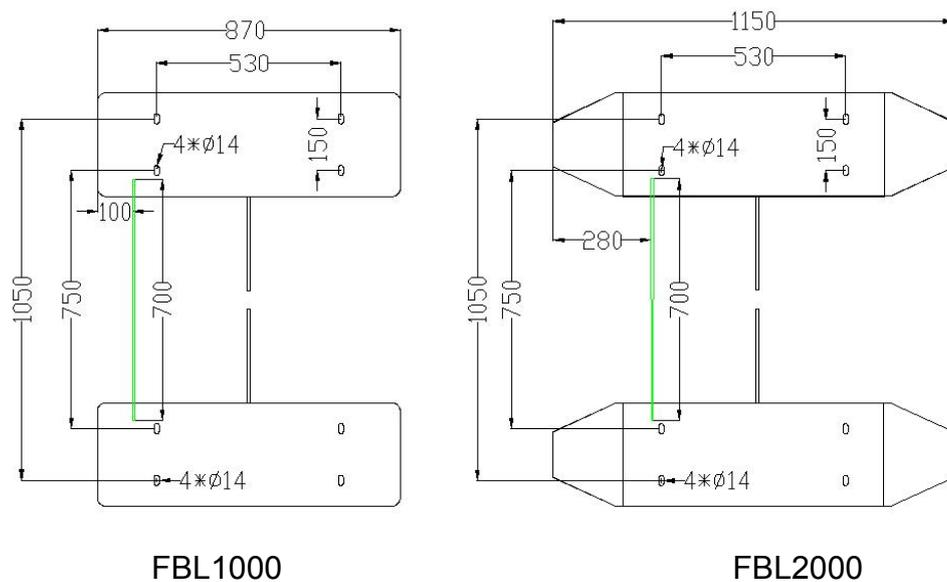

Figure 2-3
For the outlet of concealed cables, see the installation hole positions of the flap barrier in Figure 2-3. The device uses 6 x 1.5 mm2 cables with the voltage input range of AC 100-240 V as the power supply cable (including ground cables).
- ① Power on the master machine and slave machine, adjust the wing arms. Ensure that the wing arms are in the same line and the distance between the wings is 60 mm. Make the wings to be in the OFF state.
- ② Make sure the infrared correlation tubes on both sides align with each other.
- ③ Make marks: Mark the screw hole centers of the base and chassis base edges on the ground.
- ④ Drill holes: Move away the chassis and get ready a hammer drill and a 14 mm drill bit. Drill a hole with the depth of 80 mm in the screw hole center marks. Alternatively, drill holes according to installation hole positions. For devices, see Figure 2-3 for installation hole positions. The unit of data in the figures is mm.
- ⑤ Apply screw glue to the outer surface and threads of the expansion screws, insert expansion screws, and fix the master machine and slave machine in the marked positions. Use a level checker (or spirit level) to check whether the installation ground foundation is in correct level. If not, use a pad for adjustment.